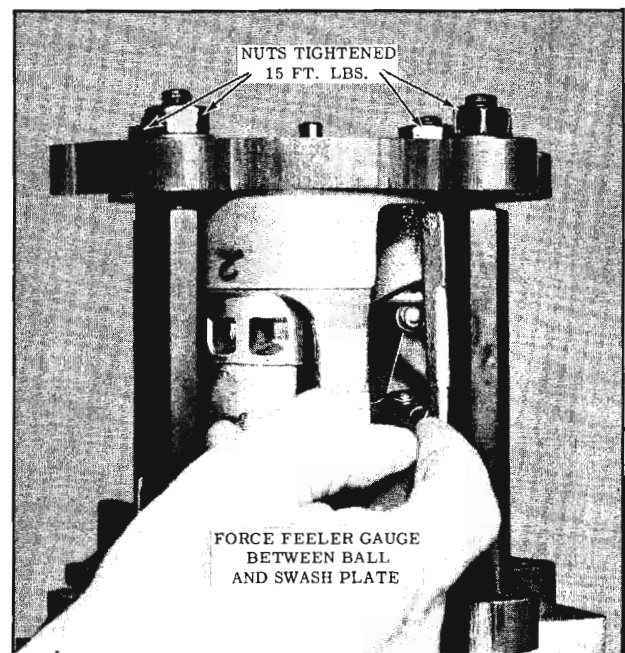

Fig. 15-76 Checking Drive Ball to Swash Plate Clearance
12. Use a leaf type feeler gauge to check between the rear ball and swash plate. (Fig. 15-76)